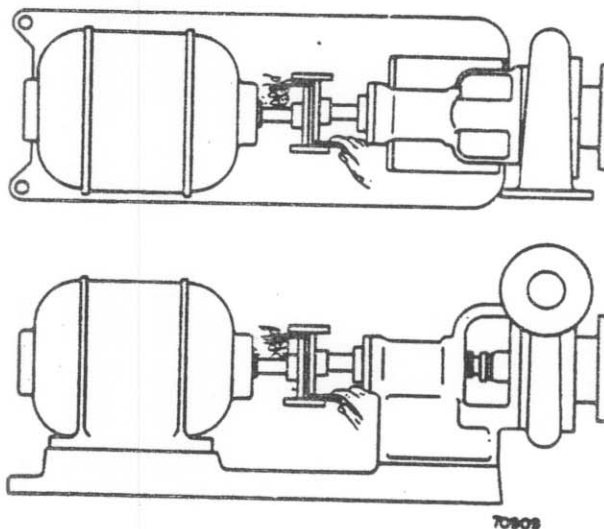

Fig. 5
5. Check parallel misalignment—shaft axes parallel but not concentric—by laying a straight edge across both coupling rims at top, bottom and both sides. See Fig. 5. This applies to both types of couplings.